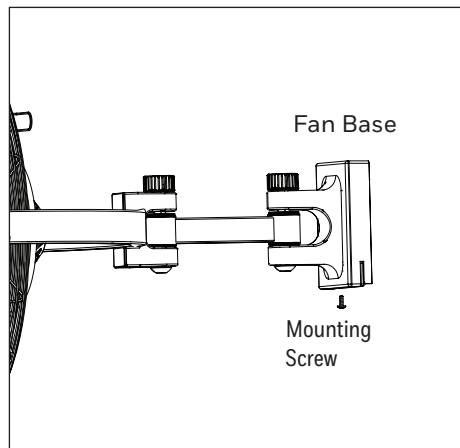

Figure 1.5
5. Replace the previously removed mounting screw into the base of fan to secure the base to the mounting bracket (Figure 1.5).